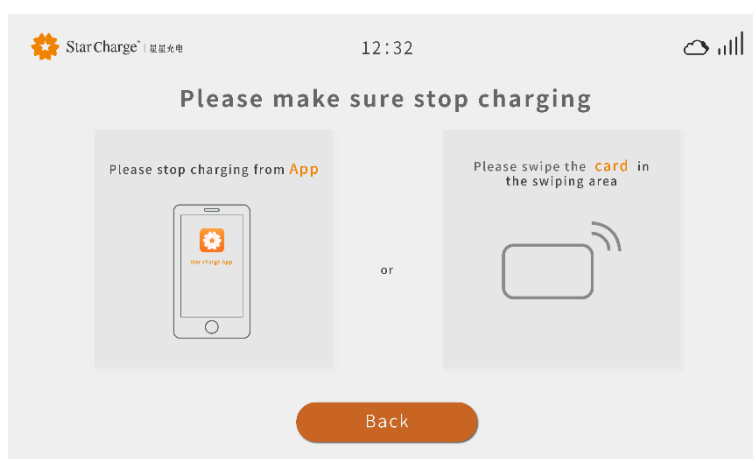

Figure 3-15 Swipe to charge
Step 5 If you need to stop charging during the charging process, click the "Stop" button to enter the stop charging interface and select the scan code mode, as shown in Figure 3-16, and click the stop button on the mobile phone interactive interface to stop charging, as shown in Figure 3-15.